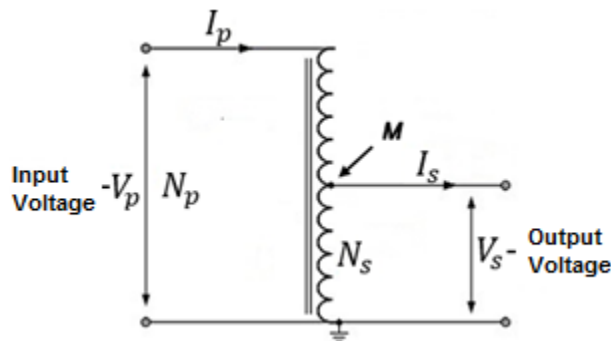

Figure 10: Autotransformer
Several coils can be placed on the same core, connect the coils together and get different voltages. The only requirement is that the electric current between the coils needs to connect, and not be missing. When there is one coil on the core (or coils connected between them so that there is an electrical contact between the primary and secondary coils) then the system is called a Autotransformer (see Figure 10). M is the connection point between the two coils.
A useful component called Variac is an Autotransformer with a M contact (Fig. 10) that slides along the coil and enables the selection of a desired output voltage, usually between 0 and V_p .
12. Disconnect all wires and connect the transformer as an Autotransformer. Use only one coil, see Figure 10. Connect two multimeters to measure voltages V_P, V_S : Connect one voltmeter directly to the signal generator which is connected to the primary coil of 140 winds and a second voltmeter connect to the coil with 14 winds. Turn on 8V current in the generator, and measure the currents. Alter the number of winds of the secondary coil in the transformer to 42, 84, 112 and measure the voltages accordingly.